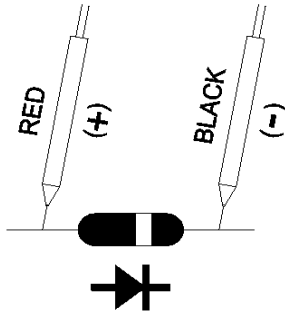

Fig.2
- 4) a. When connected with polarity as shown in Fig. 2, a forward current flow is established and the approx. Diode Forward Voltage (VF) value in volt will appears on the display reading. If the diode under test is defective, " 0.000 " or near " 0.000 " value (short circuit) " - - - - " (open circuit) will be displayed.